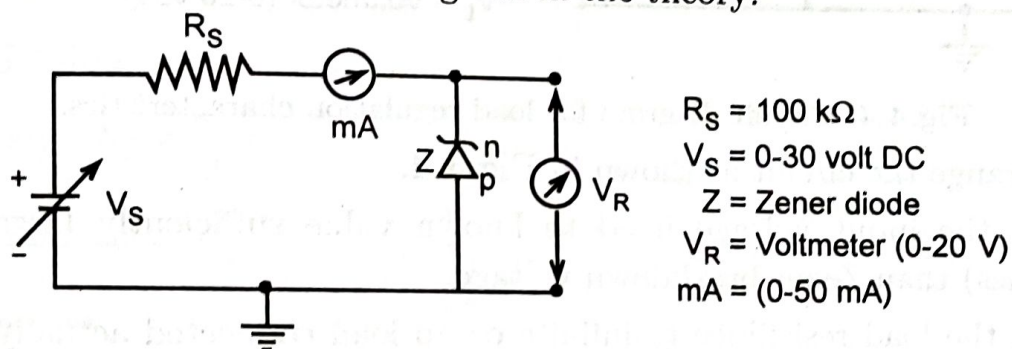

Fig.4.2: Circuit diagram for the reverse bias characteristics.
1. Arrange the circuit with proper value of series resistance (R_S) as per the given circuit diagram in **Fig. 4.2**.